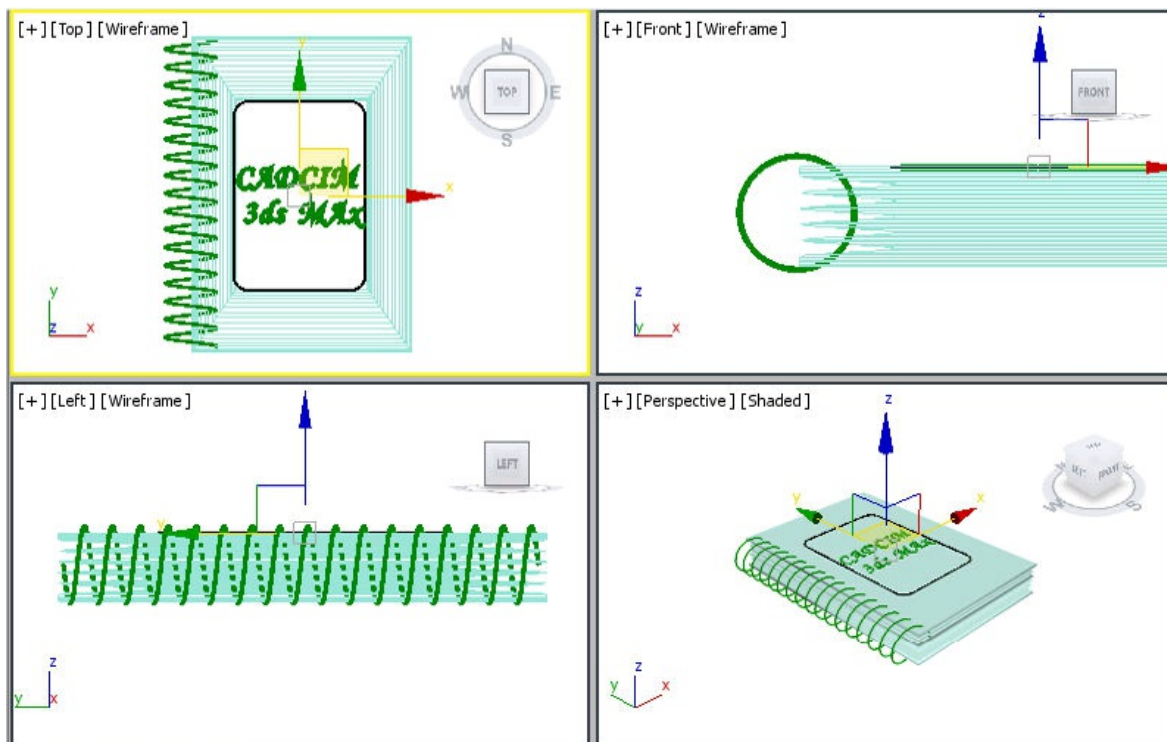

Figure 5-73 Alignment of rectangular design in the viewports
10. Choose the **Select and Move** tool and align *rectangular design* in the viewports, as shown in Figure 5-73.